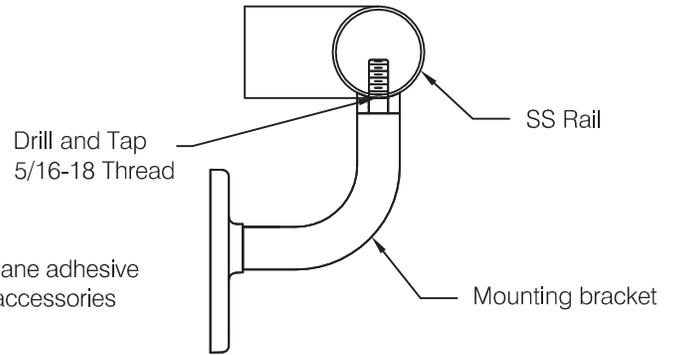

fig 3
- Step 4:** After the adhesive has been allowed to cure to at least handling strength, lay the railing on a flat surface with the underside facing up. The wall return and corner accessories will help to stabilize the rail while bracket mounting holes are added. Using a 1/4" diameter drill, locate and drill bracket mounting holes through the underside of the handrail tubing. If the bracket occurs within the area of an internal splice, drill through both the handrail and splice. Thread bracket mounting holes with a 5/16"-18 taper tap, see **fig 3**.